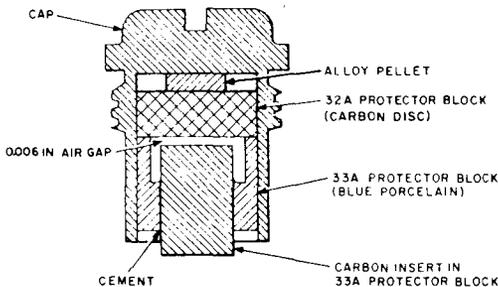

Fig. 9—2A1B Protector Unit
2.05 Figure 9 illustrates the 2A1B protector unit furnished with the cable protected versions of the terminals. The 2A1B protector unit provides cable protection.